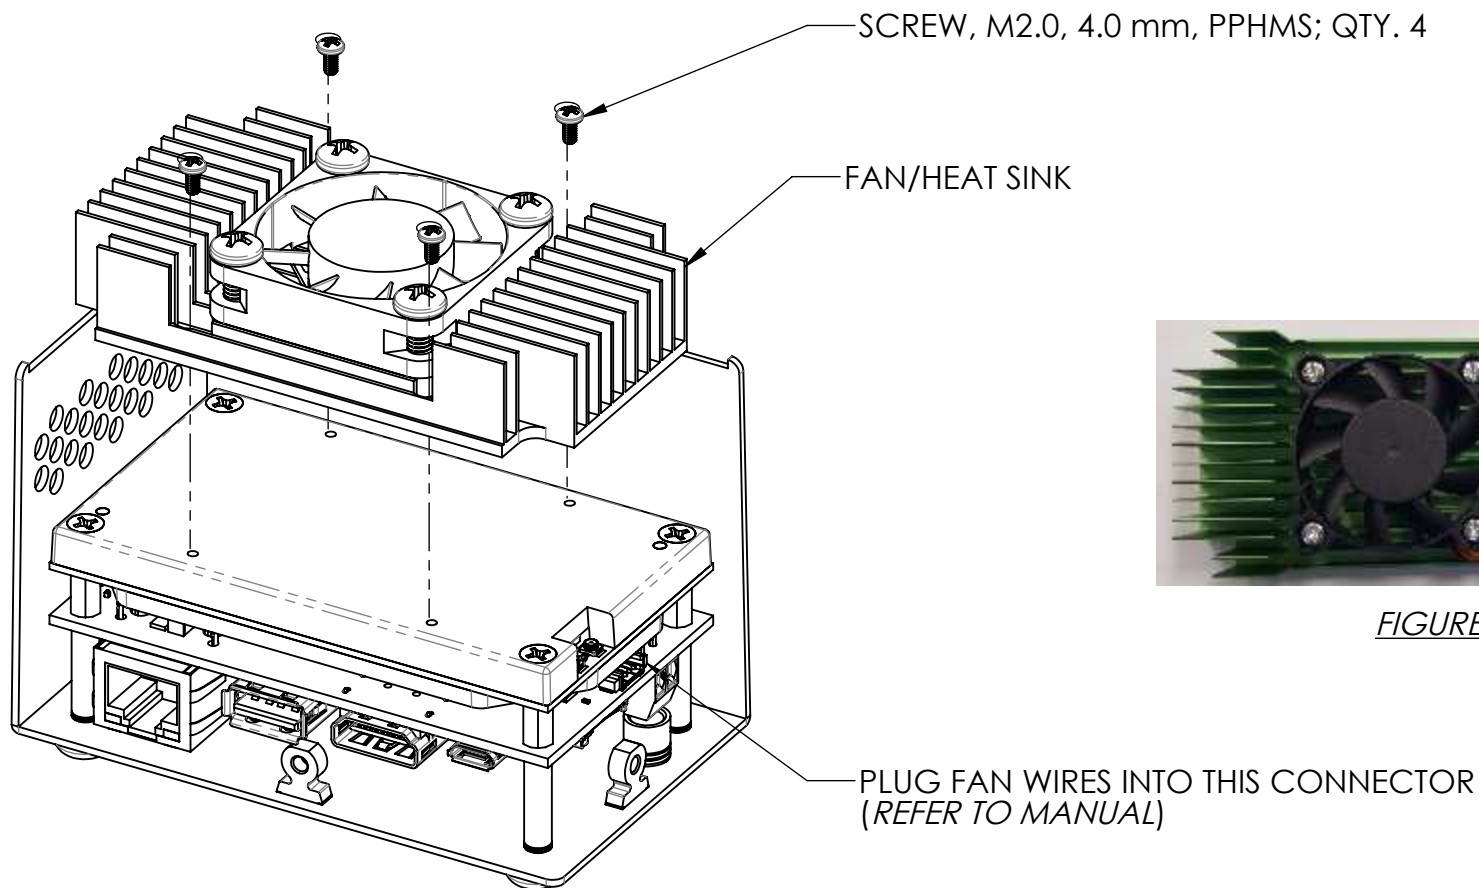

FIGURE 3
1. DRESS THE FAN WIRES AS SHOWN IN FIGURE 3.